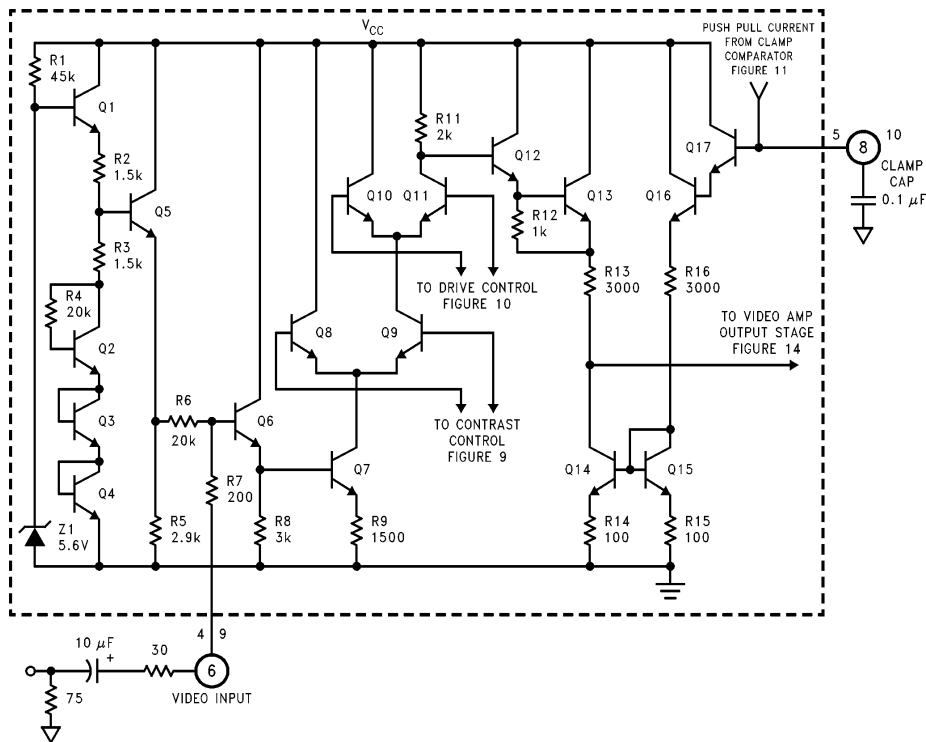
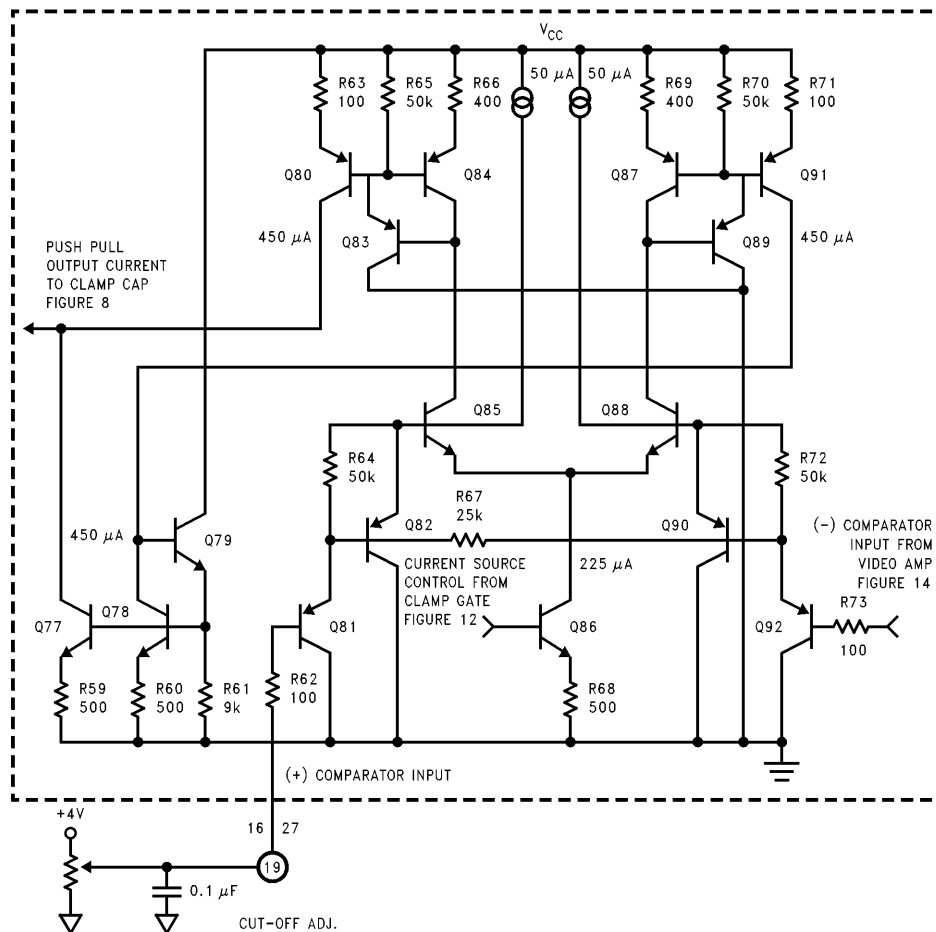
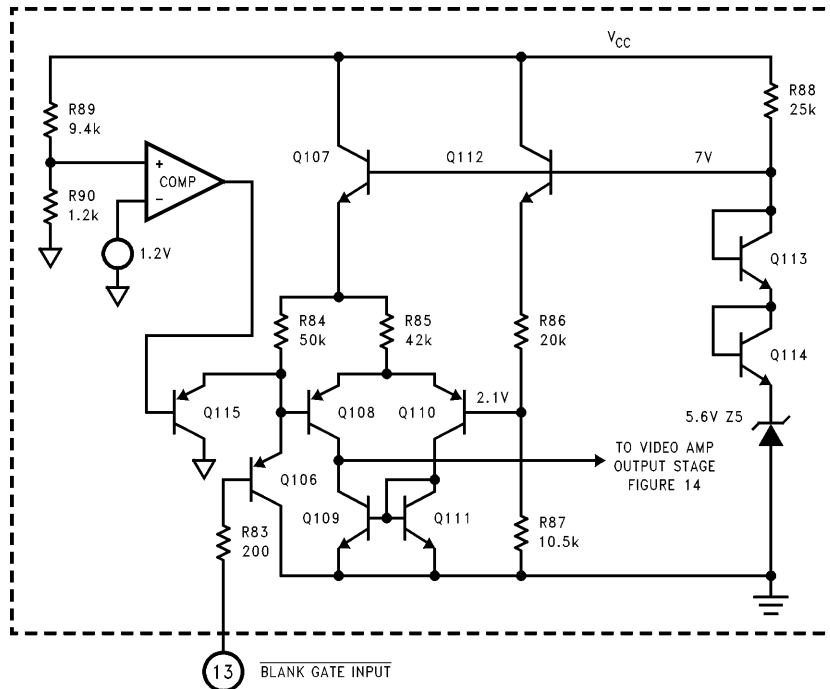
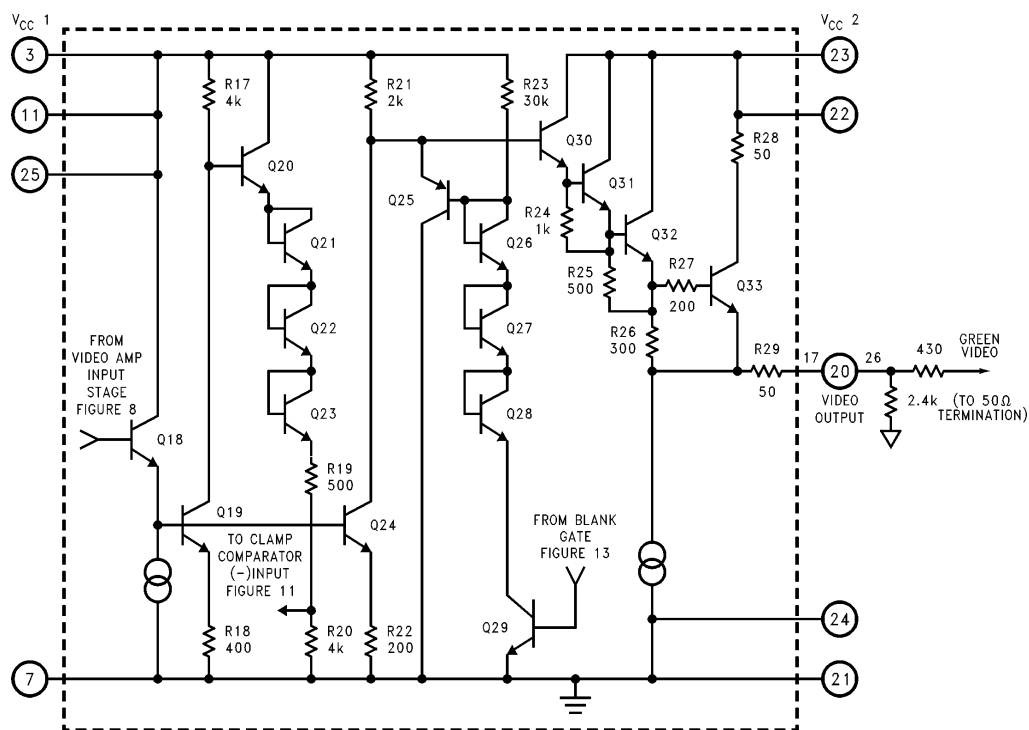

FIGURE 8. Simplified Schematic of LM1208/LM1209 Video Amplifier Input Stage
FIGURE 11. Simplified Schematic of LM1208/LM1209 Clamp Comparator Circuit
FIGURE 13. Simplified Schematic of LM1208/LM1209 Blank Gate Circuit
FIGURE 14. Simplified Schematic of LM1208/LM1209 Video Amplifier Output Stage with Blank Circuit
Figure 8 is a simplified schematic of one of the three video amplifiers input stage along with the recommended external components. The IC pin numbers are circled and all external components are shown outside the dashed line. The video
cuits. Each channel has its own drive control circuit. Increasing the voltage to the base of Q11 increases the video gain (drive) of the LM1208/LM1209. At a 4V control voltage the gain of the LM1208/LM1209 is at maximum, with all the current flowing through Q11. If all the current was flowing through Q10, the video signal attenuation would be over 40 dB, the maximum attenuation. Q12 through Q17 are part of the final section shown in Figure 8. DC restoration is done at this stage. The clamp comparator (Figure 11) drives the clamp cap at pin 8 to a voltage that sets the correct black level of the video signal. This cap is also connected to the base of Q17. Q17 and Q16 are one half of the darlington differential pair. The clamp cap voltage establishes the current flow through R16, Q15, and R15. With the bases of Q14 and Q15 held to the same voltage the current through Q15 is mirrored into Q14 and the other half of the differential pair, Q12 and Q13. By this current mirror the voltage at the collector of Q14 is set to the correct DC value for the video signal by controlling the voltage drop across R13, completing the DC restoration.
Pin 1 of the contrast control output is held at a constant voltage two diode drops below  $\frac{1}{2}V_{CC}$ . To generate this reference the base of Q51 is held at exactly  $\frac{1}{2}V_{CC}$ . R44 and R45 form a voltage divider. With both Q53 and Q54 connected as diodes the voltage at the junction of R44 and R45 is  $\frac{1}{2}V_{CC}$  plus one diode drop. Q52 is a buffer to this reference voltage, generating exactly  $\frac{1}{2}V_{CC}$  at its emitter. Q51 is used to drive the bases of Q49 and Q50 to one diode drop below the reference voltage. Q50 is used to further buffer the reference voltage to the base of Q9 (see Figure 8) and the corresponding transistors in the other channels. Q48 is used to bias the collector of Q49 to  $\frac{1}{2}V_{CC}$ , the same voltage as the collector of Q47 when the differential pair is balanced. This keeps the characteristics of Q47 and Q49 well matched. Going back to Q44 and R33; these parts set up a current source that varies the current through R36. With a 2V contrast voltage the differential pair is balanced, meaning that the voltage drop across R36 is  $\frac{1}{2}V_{CC}$ . Q45 buffers the voltage at R36, driving the bases of Q46 and Q47. Q46 further buffers the voltage, driving the base of Q8 (see Figure 8) and the corresponding transistors in the other two
channels. In the balanced condition the voltage at pin 2 will also be two diode drops below  $\frac{1}{2}V_{CC}$ , giving a well balanced drive to the differential pair consisting of Q8 and Q9 in the video amplifier input stage. With the contrast voltage set to 0V, the voltage at pin 2 will increase by about 400 mV to 500 mV. A 4V contrast voltage decreases the voltage at pin 2 by about 400 mV to 500 mV from the balanced condition. Reviewing Figure 8 note that decreasing the voltage at pin 2 will decrease the current flow through Q8. Thus the current flow through Q9 increases, increasing the gain of the LM1208/LM1209. So increasing the contrast control voltage at pin 12 increases the gain of the LM1208/LM1209. The contrast control voltage from Q46 and Q50 is common to all three channels. To minimize crosstalk it is necessary to add a decoupling capacitor of 0.1  $\mu$ F across R37 and R40. Since this can only be done externally, these two nodes are brought out to pins 1 and 2. The 30 $\Omega$  resistor is added in series with the capacitor for improving stability. To prevent a destructive current surge due to shorting either pins 1 or 2 to ground R38 was added for current limiting.
*Figure 11* is a simplified schematic of the clamp comparator circuit. Q85 and its input transistors, Q81 and Q82 are one half of the differential pair. The base of Q81 is connected to pin 19 via R62. This is the positive input to the comparator. Q88 and its input transistors, Q90 and Q91 are the other half of the differential pair. The base of Q92 is connected to the junction of R19 and R20 in *Figure 14* via R73. This is the negative input to the comparator. R73 is included only to match the input characteristics of the positive input, which requires the 100 $\Omega$  resistor. The negative comparator input is the feedback from the output stage as briefly described in the block diagram and covered in more detail in the output stage circuit description. Q86 is the current source for the differential pair. It is turned on and off by the output of the clamp gate circuit (*Figure 12*). Q102 of the clamp gate circuit has a current flow of about 225  $\mu$ A when it is turned on. This current is mirrored into Q86. Assume that the inputs to the comparator are equal, making the differential pair balanced. In this condition Q85 and Q88 each have a current flow of 113  $\mu$ A. Looking at the Q85 side of the circuit, Q84 will also have 113  $\mu$ A of current flow. Q80 is set up as a current mirror to Q84, but its emitter resistor is one fourth the emitter resistance of Q84. Thus the current flow for Q80 is four times the current flow thru Q84, or 450  $\mu$ A. Q83 has been added to help drive the base of Q80, increasing the accuracy of the current mirror. The collector of Q80 directly charges the capacitor as a current source of 450  $\mu$ A. R65 is added to discharge the charge stored in the bases of Q80 and Q84. This is necessary to quickly turn off the current charge of the clamp capacitor as the comparator section is turned off. Q87, Q89, and Q90 work in exactly the same way. However, the collector of Q91 drives another current mirror with the 450  $\mu$ A. This current flows thru Q78. Q77 is a current mirror with Q78, thus 450  $\mu$ A also flows thru Q77. Q79 has been added to help drive the base of Q77, again adding to the accuracy of the current mirror. Since Q77 is on the ground side of the circuit it discharges the clamp
*Figure 13* is a simplified schematic of the Blank Gate circuit. With the exception of the simple output stage and the spot killer circuit, this circuit is almost identical to the clamp gate circuit. The only difference is that the output stage is driven from the opposite side of the differential pair. Thus Q111 is connected as a diode instead of Q109. With the input at pin 13 at a low level Q108 is turned on, also turning on Q29, the output transistor. Q29 is part of the blanking circuit in the output stage shown in *Figure 14*. When Q29 is turned on the output is clamped to a blanking level that is "blacker than black", allowing blanking to be done on the cathodes of the CRT.
Figure 14 is a simplified schematic of the Video Amplifier Output Stage including the blanking circuit. Q18 serves as a buffer between the DC restoration stage shown in Figure 8 and the output stage. A current source is used to fix the current flow thru Q18 keeping it well within its operating range. The emitter of Q18 drives the bases of Q19 and Q24 with the current thru Q24 being twice that of Q19. Q19, along with Q20 thru Q23 duplicate the actual output stage going to pin 20. Q19 inverts the video signal (note that the video signal was inverted at Q7 in Figure 8). With two internal inversions of the video signal in the LM1208/LM1209, the output is non-inverted. The collector of Q19 gives a gain of  $-10$  to the video signal and drives the base of Q20. Q21 through Q23 are all connected as diodes with the emitter of Q23 driving R19 and R20. The junction of R19 and R20 is connected to the base of Q92 via R73 (shown in Figure 11), this being the feedback to the negative input of the clamp comparator. This stage is independent of the actual output stage at pin 20, but is where the feedback is done for DC restoration. Therefore it is possible to blank the actual output stage below the black level without affecting the DC restoration feedback loop. Q24 is the equivalent part of Q19 in the actual output stage. It also inverts the video signal with a gain of  $-10$  and drives the base of Q30. Q30 thru Q32 each give a diode drop to the level of the video signal, similar to being connected as diodes. Being connected as emitter-followers these transistors also give current gain to
Figure 14 also shows the power and ground pins to the LM1208/LM1209. All the  $V_{CC1}$  pins (pins 3, 11, 25) are all internally connected together. A 0.1  $\mu$ F bypass capacitor must be located close to each pin and connected to ground. Further bypassing is done by a 100  $\mu$ F capacitor. This capacitor needs to be located on the board close to the LM1208/LM1209. Pins 22 and 23 are the  $V_{CC2}$  pins. These pins may need a ferrite bead in series with the input power. A 10  $\mu$ F and a 0.1  $\mu$ F bypass capacitors must be located close to pins 22 and 23. Correct bypassing of pins 22 and 23 is **very important**. If the bypassing is not adequate then the outputs of the LM1208/LM1209 will have ringing, or even worse they may oscillate. The ground side of the bypass capacitors at pins 22 and 23 must be returned to a ground plane with no interruptions from other traces between these capacitors and the ground pins 21 and 24 of the LM1208/LM1209.